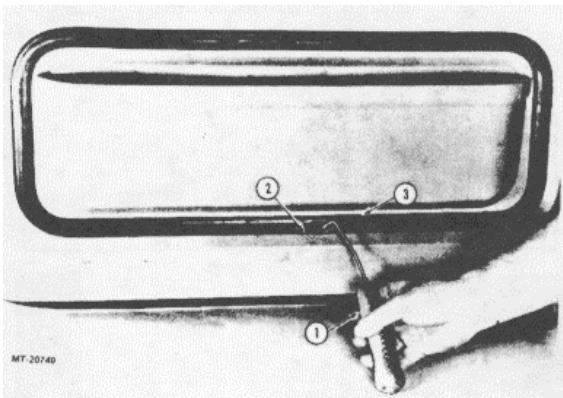

Fig. 10. Removing Access Panel from Door
2. Remove rubber insert from around door access cover. Use blunt nose screwdriver or seal tool as shown (Fig. 10). Lift out cover and remove seal from access opening.